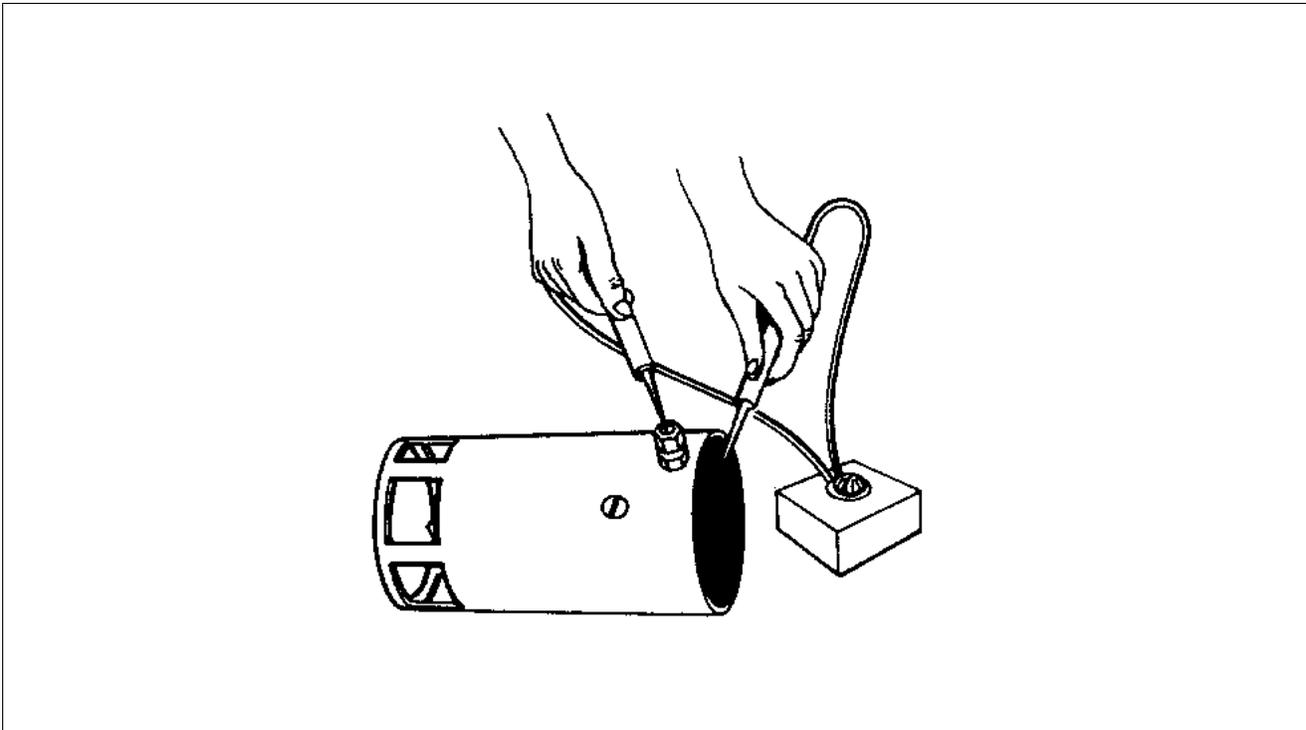

Figure 80-4. Testing Motor Fields for Grounds
- a. Check the field coils for grounds ( ref. Figure 80-4 ) by placing one test probe on the frame and the other on the starter terminal. Be sure the brushes are not accidentally touching the frame. If the lamp lights, the fields are grounded. Repair or replace.